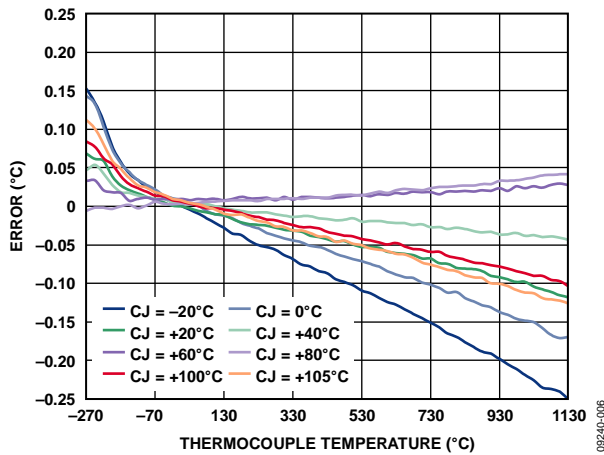

Figure 6. Error vs. Thermocouple Temperature for Fixed Cold Junction (CJ) Temperature
Figure 6 shows a plot of the thermocouple solution error over various thermocouple temperatures using various fixed values of cold junction (CJ) temperatures. Total solution error  $\leq \pm 0.25^\circ\text{C}$  is achieved over a wide temperature range. Note that the accuracy of the solution can be further improved by performing a system calibration of the AD7793 ADC.